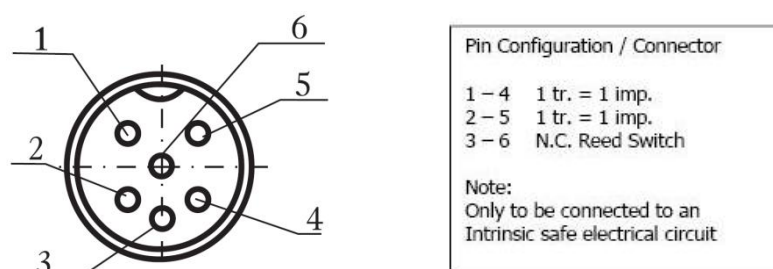

Figure4 Mechanical index with LF output
- 10) Connect the electrical pulses accordance with the connection diagrams fig.4.
- * Use only devices with electrical characteristics as recommended (connection diagram fig.4)